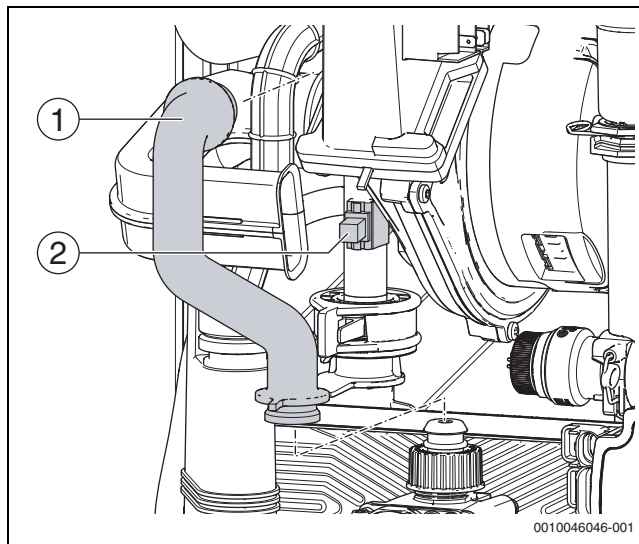

Fig. 167 Replace the NTC at the flow pipe
- ▶ Place the new NTC [2] on the flat surface of the flow pipe (close to the inlet of the heat exchanger) (→ Figure 167) (position → Chapter 9.11, page 60).